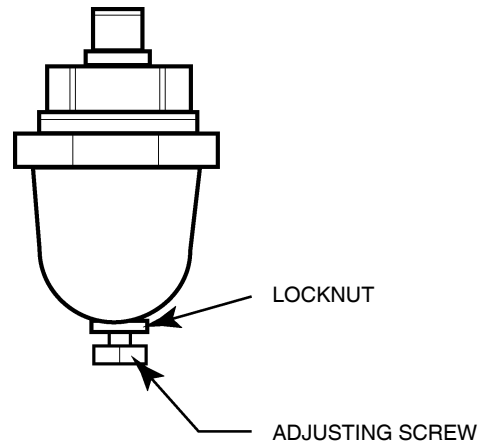

FIGURE 2 MODULATION VALVE
2. Remove 1/4" plastic plug from the tee (18) in the regulator valve. Connect a pressure gauge to this port.
3. Loosen the adjustment screw locknut and back out adjusting screw 3 turns. See Figure 2
7. While maintaining the rated discharge pressure, turn the adjustment screw on the modulation valve (see Figure 2) so that the test pressure gauge reads: